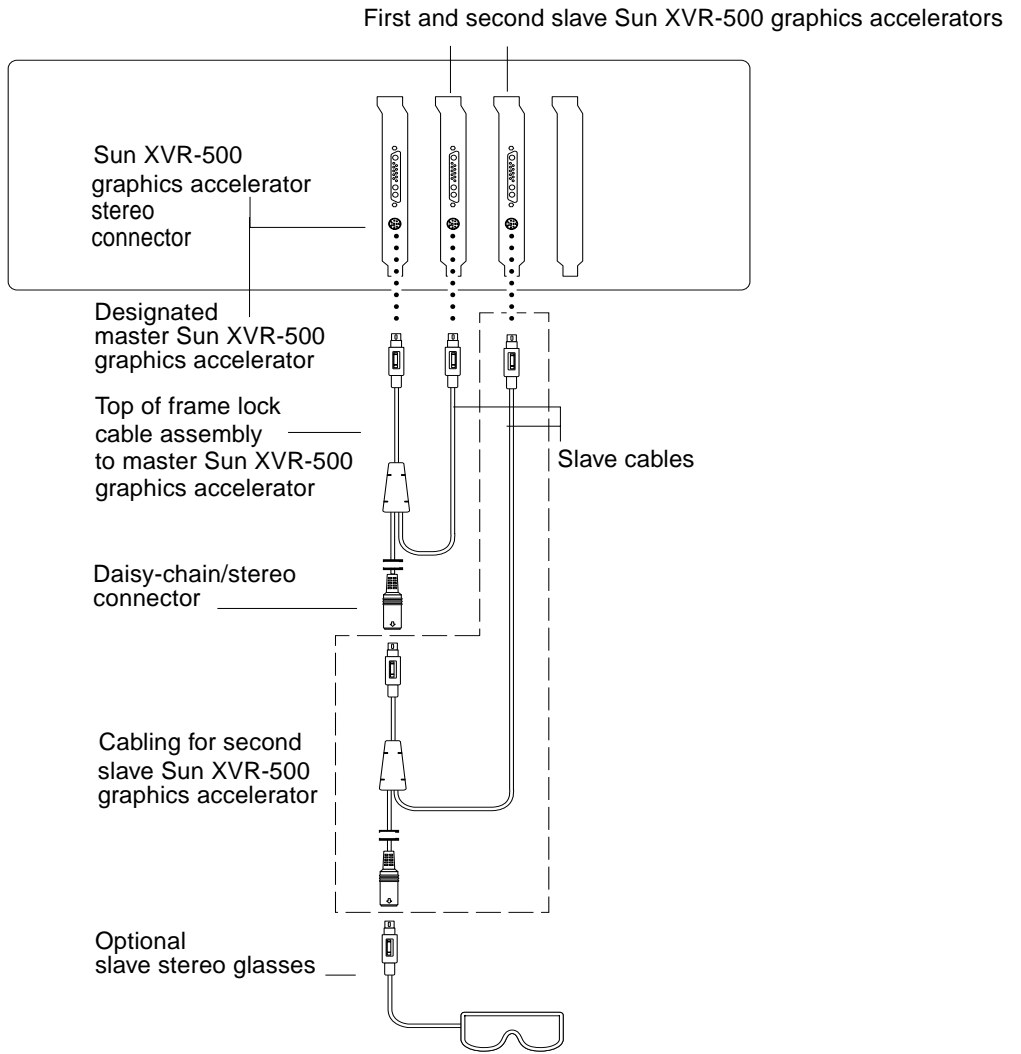

FIGURE 4-2 Sun XVR-500 Graphics Accelerator and Frame Lock Cable Assembly
- 3. Connect a second slave Sun XVR-500 graphics accelerator, if applicable, or stereo glasses to the daisy-chain/stereo connector (FIGURE 4-2).**